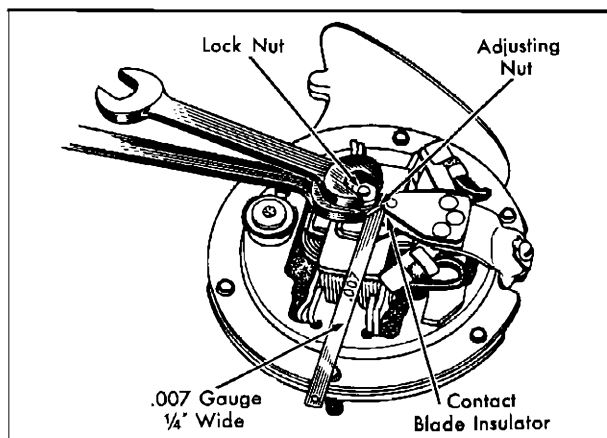

Fig. 15-12 Horn Contact Adjustment
4. Loosen the adjusting lock nut, Fig. 15-12, and turn adjusting nut to the left to increase current, or
1. Insert a feeler gage, .007" thick (not more than 1/4" wide) between adjusting nut and contact blade insulator, Fig. 15-12. Do not allow gage to touch contact points.